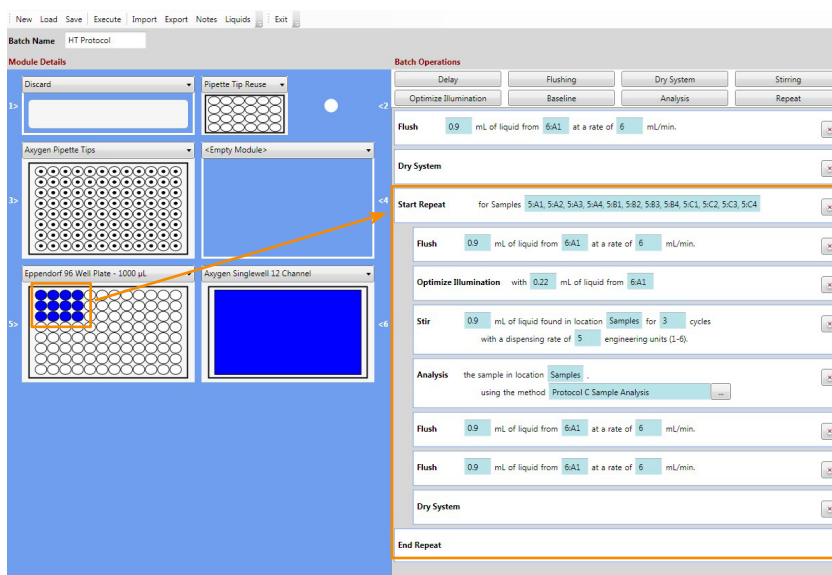

Figure 8-23: Batch protocol with new Repeat step.
- To apply samples to the Repeat operation, right-click to select all of the sample wells that you want to include in the repeat from the plate map. The wells will change from blue to dark gray once selected. Drag and drop the selected wells onto the for Samples box in the Start Repeat step. The for Samples box will update to Samples and the Analysis step within the Repeat will also specify Samples. To ensure that you stir your samples and optimize illumination correctly, check that the Samples description is shown in the Stir and Optimize Illumination steps as well. Figure 8-23 shows the final protocol, updated to include the new Repeat group of samples.